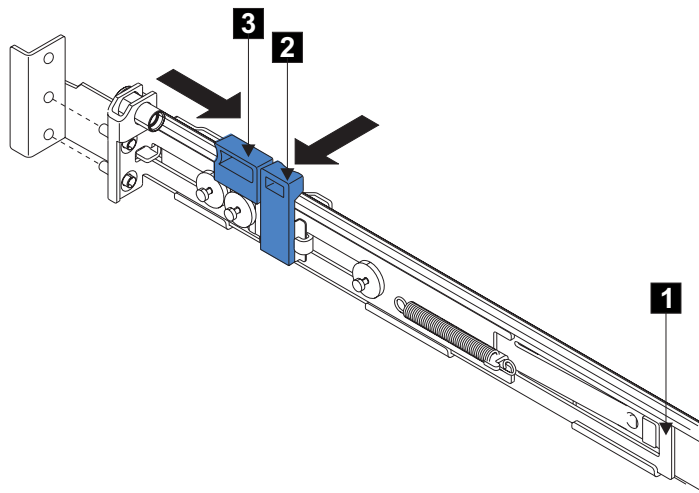

Figure 24. Opening the back latch-lock carrier assembly
5. Push the back rail bracket **1** (Figure 24) toward the front of the rail until it stops. The rail is now at its shortest adjustment.
12. Push the back rail bracket **1** (see Figure 24 on page 48) toward the rear of the rack and align the locating pins with the rack-mounting flange.
13. Push the latch lock **2** (see Figure 24 on page 48) away from the rail to release the carrier. The latch-lock carrier slides toward the rear of the rack, and the locating pins project through the holes that are in the rear flange and in the rear rail bracket.